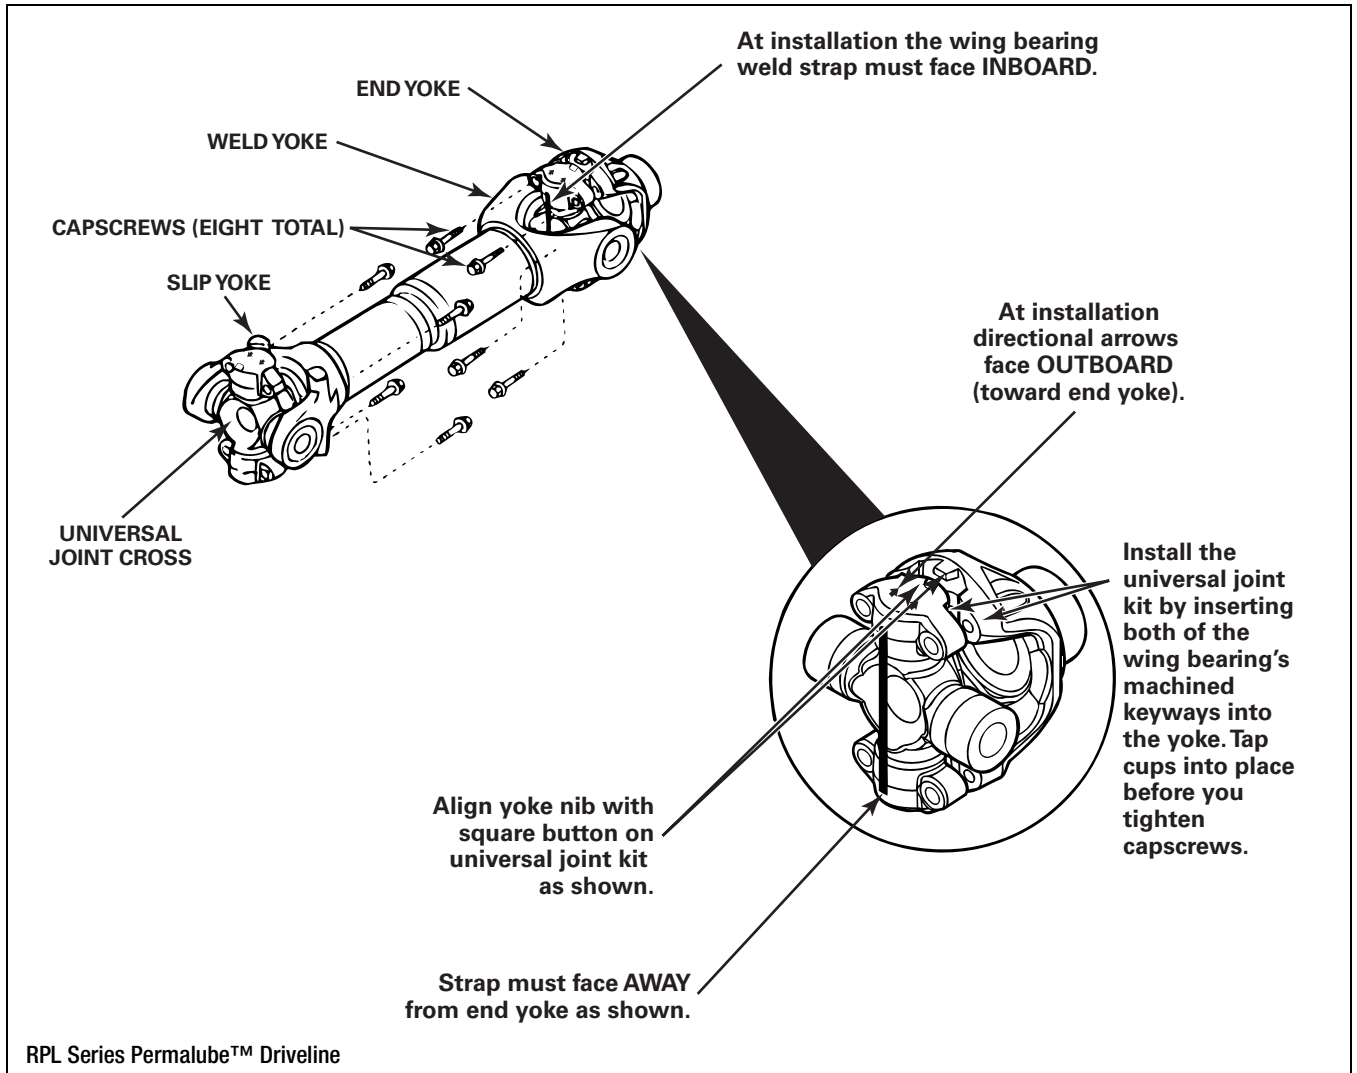

Figure 4.30
1. Clean dirt and contamination from the slip yoke and weld yoke ear bores. Figure 4.30.